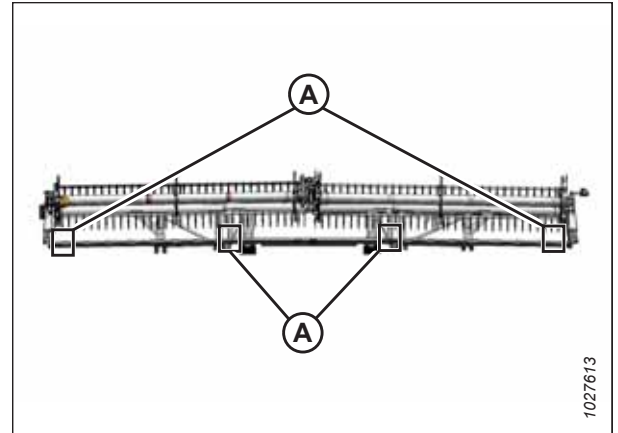

Figure 4.280: FlexDraper® Measurement Locations – Double Reel
- Double-reel headers: Figure 4.280, page 421